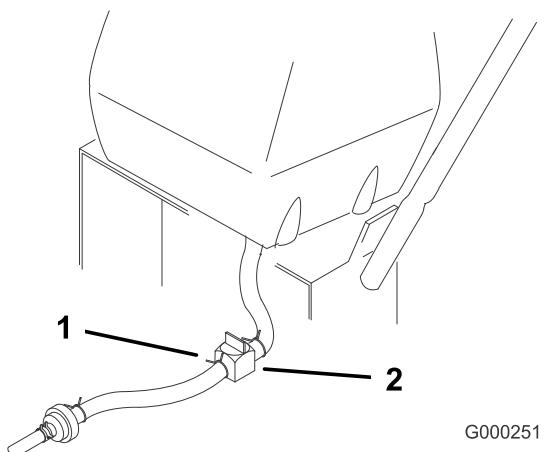

Figure 31
- Close the fuel shut off valve at the fuel tank (Figure 31).
- Squeeze the ends of the hose clamp together and slide it up the fuel line away from fuel filter (Figure 31).
- Pull the fuel line off the fuel filter (Figure 31). Open the fuel shut off valve and allow the gasoline to drain into a gas can or drain pan.
2. Close fuel shut off valve at the fuel tank (Figure 31).
6. Open fuel shut off valve at fuel tank (Figure 31).